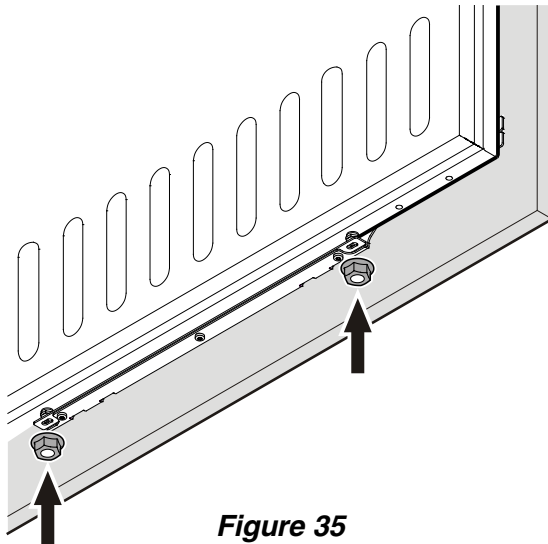

Figure 35
9. Screw on the hex nuts and tighten (**Figure 35**).